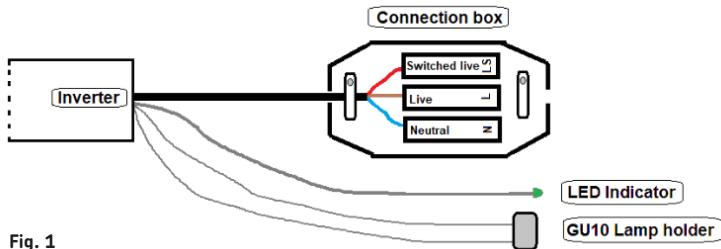

Fig. 1
- Wire for switched-maintained operation by connecting to the Live (Brown), Switched Live (Red) and Neutral (Blue) or non-maintained mode by connecting to the Live (Brown) and Neutral (Blue) (see Fig. 1). Remove the link between LS and L if not required